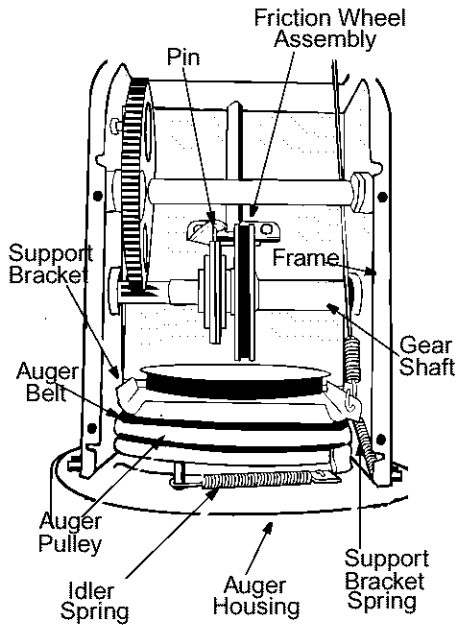

Figure 14
- Unhook the idler spring from the hex bolt on the auger housing. See Figure 14.
- Slide friction wheel assembly back onto the gear shaft. Be sure to align the pin on the shift rod with hole in the friction wheel assembly. See Figure 14.